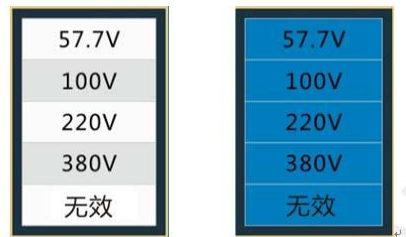

Figure 2-26 Drop-down menu picture with unchecked (left) and selected (right).
1. Prepare two menu pictures, as shown in Figure 2-26, selected and unselected. If you do not need to press down the selection effect, you only need 1 picture that is not selected.